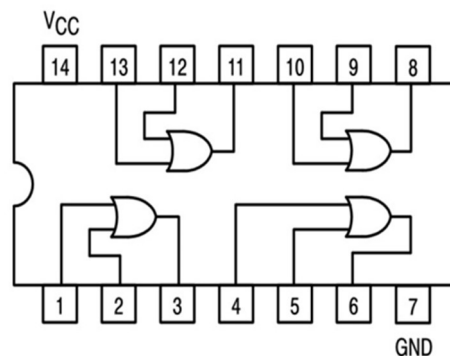

Fig 1.6: 74LS32 2-input OR gate IC pin configuration
In order to implement the OR operation using IC, the TTL 74LS32 2-input OR gate IC can be used. It has four OR gates with in the package. This IC has 14 pin DIP configuration as shown in Fig 1.6
- Pin Assignments for the ICs have been shown in fig 1.6